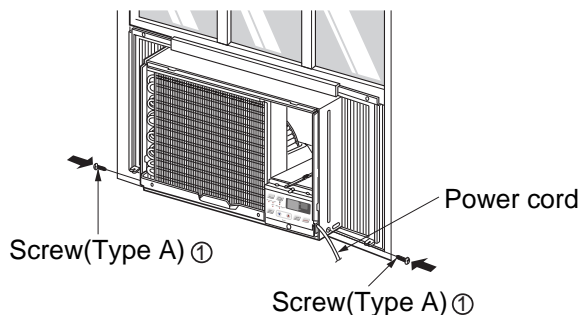

Fig. 7
10. Slide the unit into the cabinet. (Fig. 7)